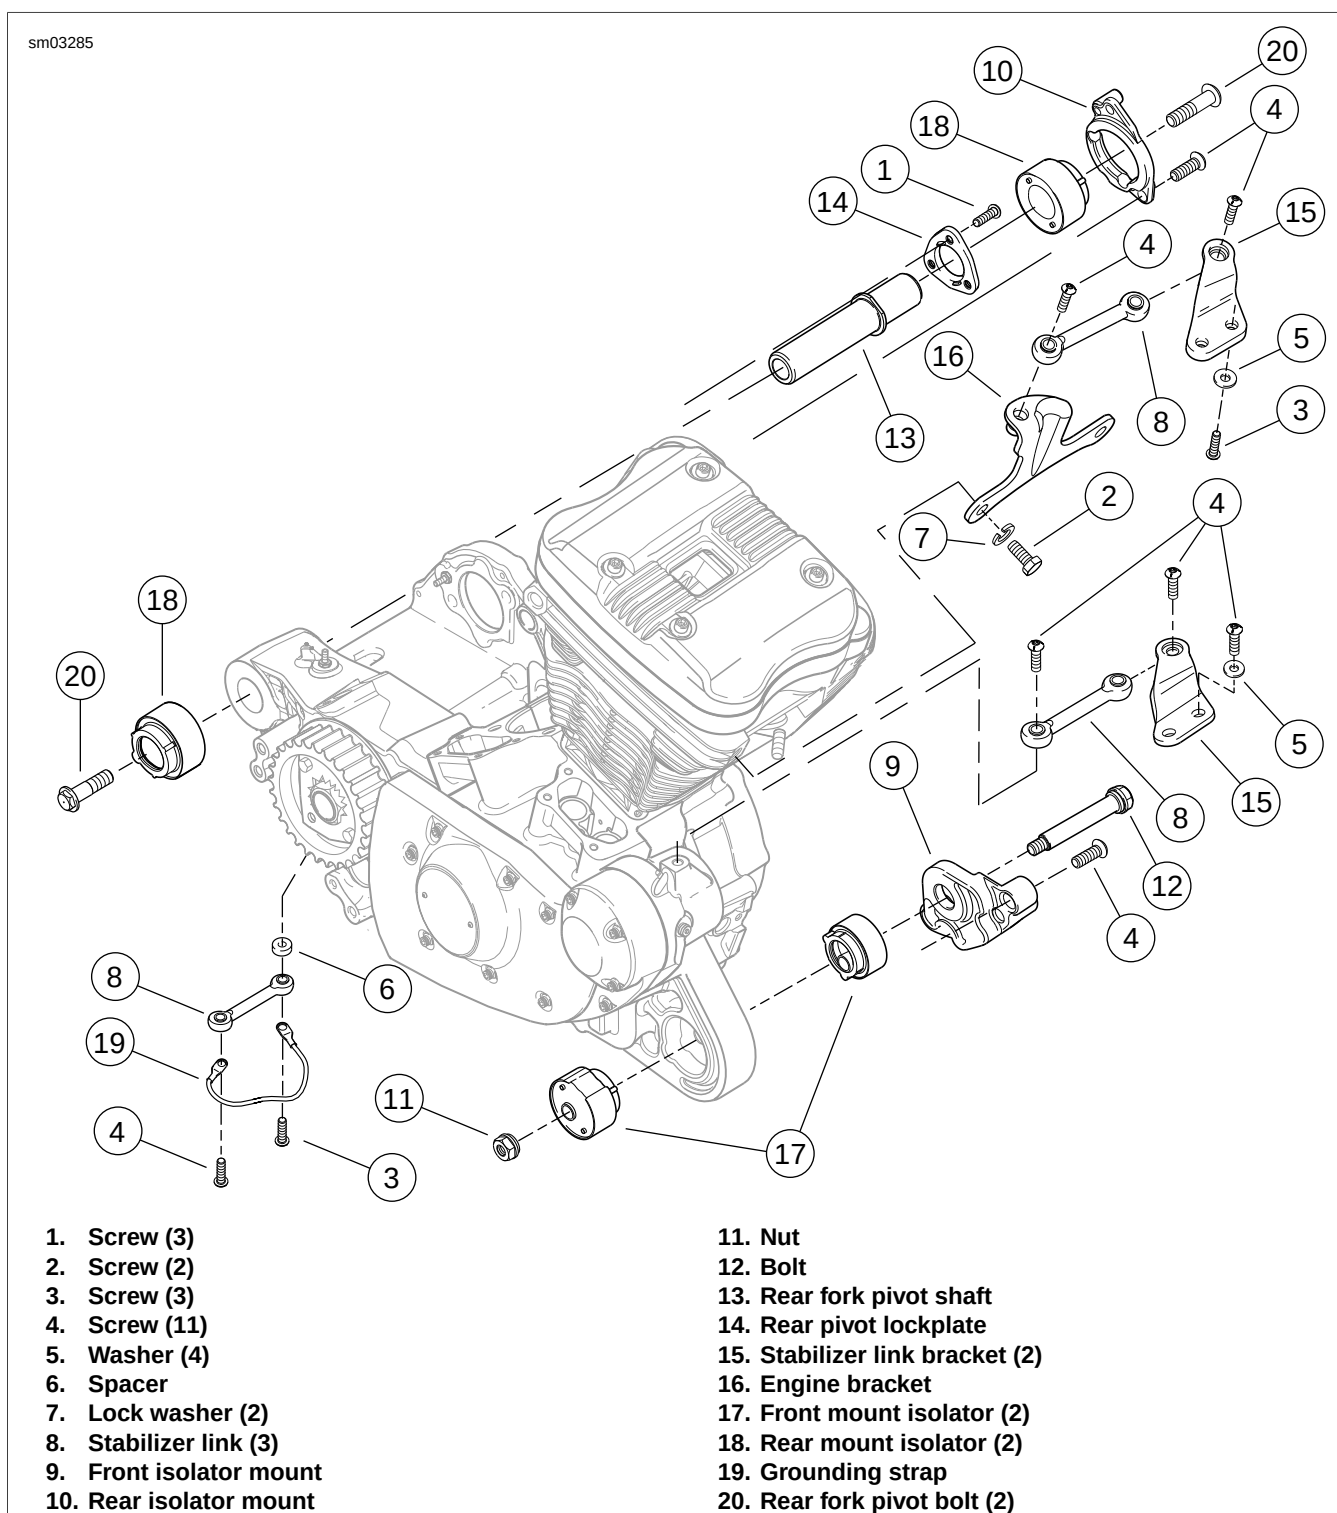

Figure 1-108. Engine Mounting Assemblies: All Models (XL Model Shown)
1. See Figure 1-108. Check for cracks or tears in engine mount isolator rubber (17, 18).
2. Check stabilizer links (8) for wear.